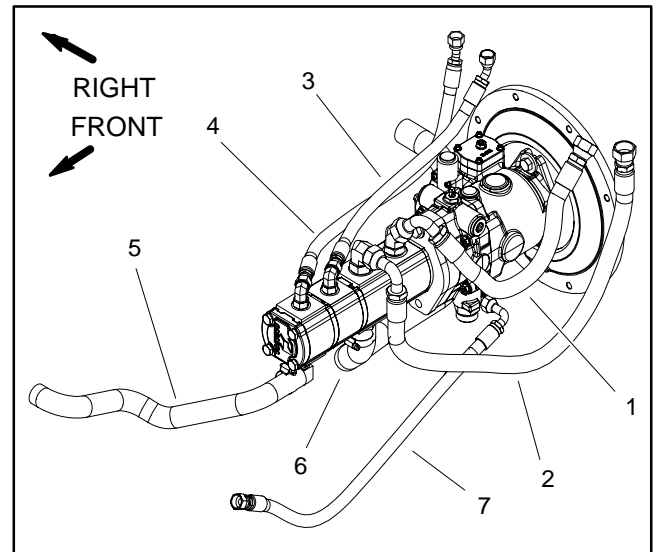

Figure 57
6. Disconnect hydraulic lines from gear pump and put caps or plugs on open hydraulic lines and fittings. Label disconnected hydraulic lines for proper assembly (Fig. 57).
8. Remove two (2) cap screws and washers securing gear pump to piston pump. Remove gear pump, coupler (item 9), spacer (item 17) and O-rings (item 16) from machine.